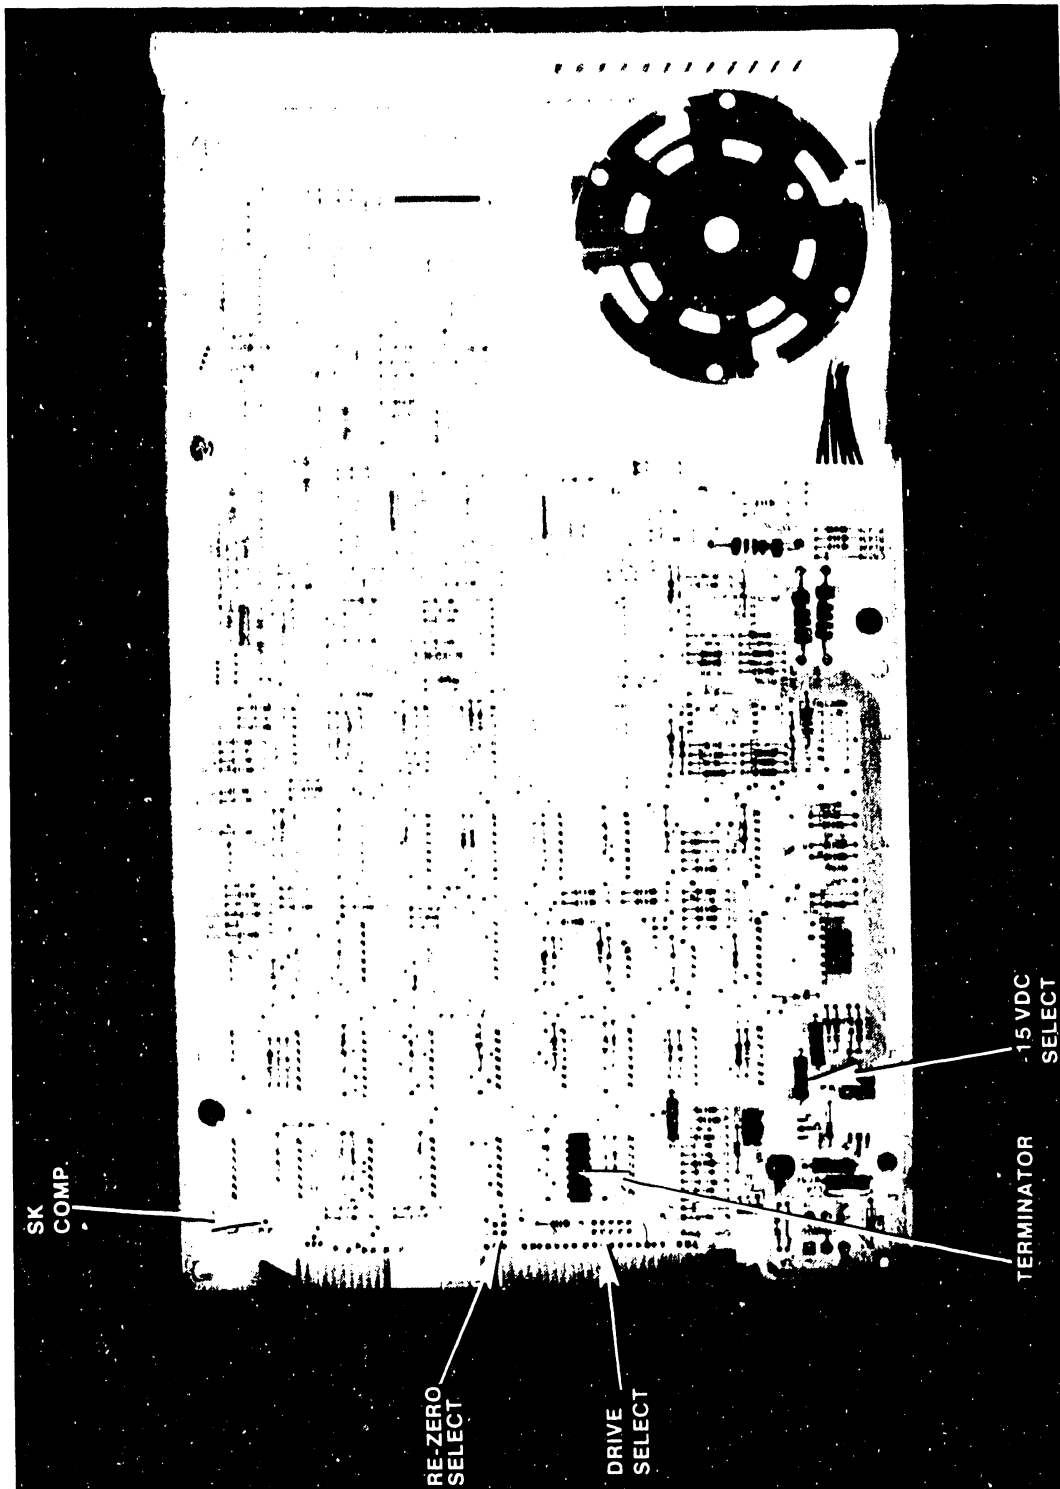

Figure 4-7. Quantum Drive Jumper Options
7. Before installing the drive, check the options jumpers and terminator IC on the Quantum Drive Control PC board (Quantum #20-2000). They should be installed as follows. (See figure 4-7.)